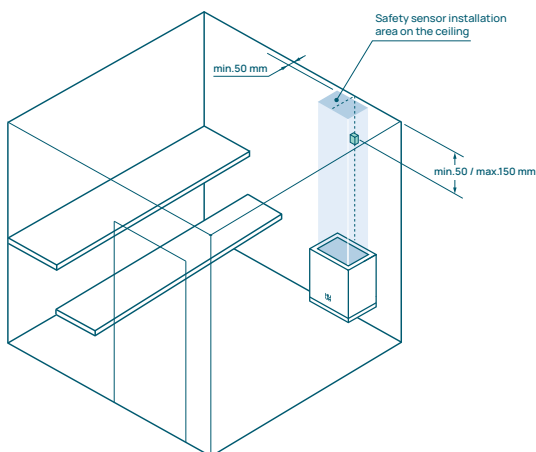

Figure 1. Temperature/Safety sensor placement
* – The minimum safety distances to the ceiling is valid only if the temperature/safety sensor is placed in the designated area on the wall or ceiling as stated in the Figure 1.